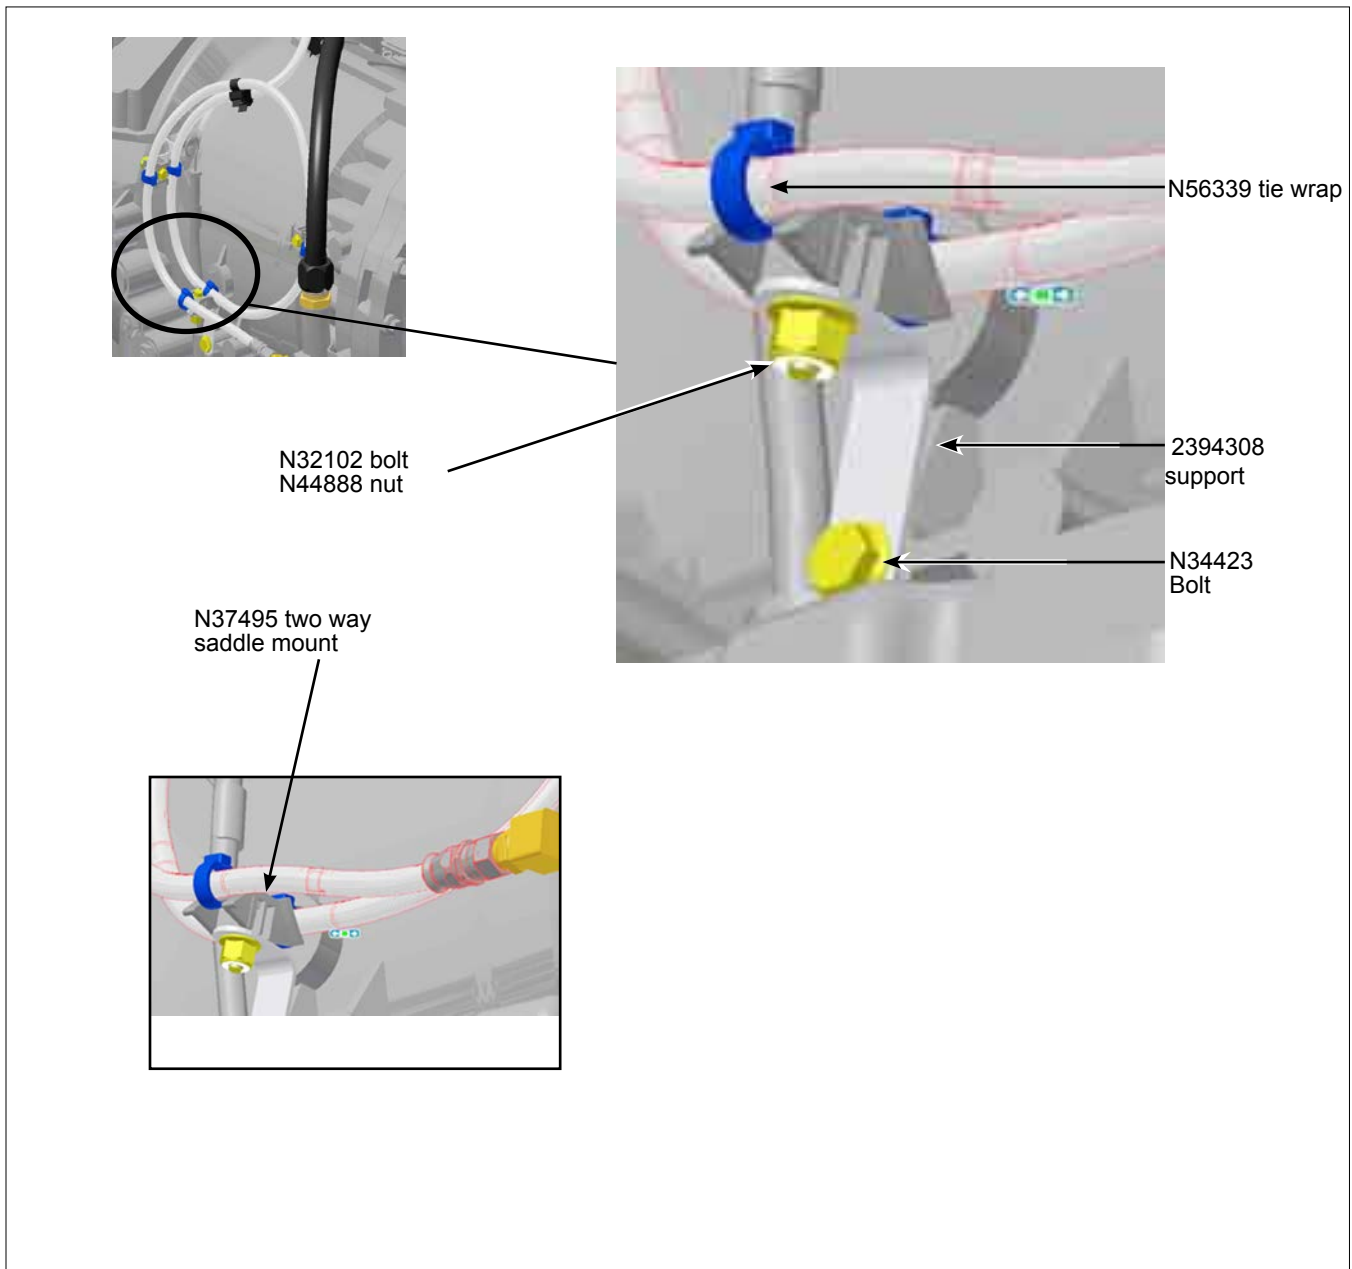

Figure 5 - Affixing the Lower Portion of the Hose
- 1.8. Install the 2394308 support with one N34423 Bolt. See Figure 5.
- 1.9. Install two N31321-01 P-clamps with one N32102 bolt and N44888 nut as indicated in Figure 5.